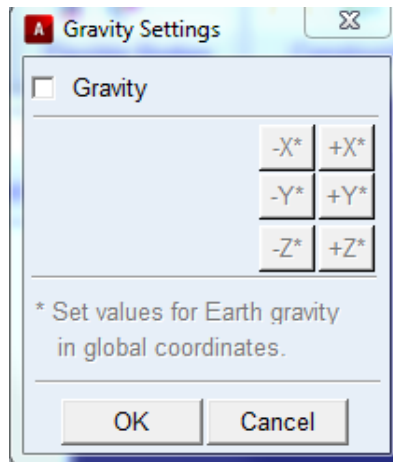

Figure 2.2
- Unmark the gravity box according to Figure 2.2.